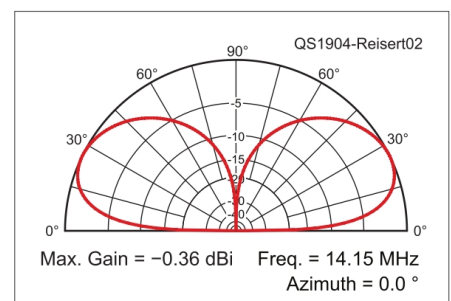
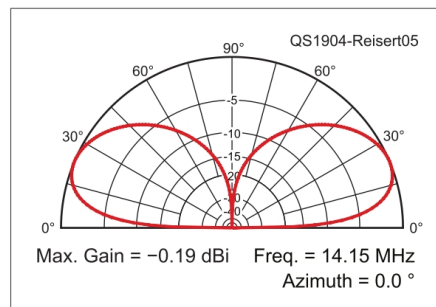

Figure 2 — Elevation pattern of a ground-mounted, quarter-wave antenna for 20 meters.
Figure 5 — Elevation pattern of a ground-mounted $\frac{3}{8}$ -wave antenna for 20 meters.
For maximum efficiency, they require a minimum of 16 quarter-wavelength radials.¹ Performance often suffers from ground clutter near the base. The typical *EZNEC* modeled radiation pattern with a takeoff angle of 26° is shown in Figure 2.² The current distribution over the monopole is shown in Figure 3. Note that the region of highest current — the place where maximum radiation takes place — is at the bottom of the antenna.
- It has a low takeoff angle of radiation at 23°, versus 26° for a ground-mounted, quarter-wave vertical (see Figure 5 and compare to Figure 2). This is a big advantage for working DX.
See Figures 2 and 3.
Another CW issue is that glitch at the beginning of the first dit on any new transmission, as can be seen in Figure 2. This glitch does not reoccur until you pause long enough for the receiver to recover and then transmit again. However, I could not hear anything funny with that first dit when listening on an adjacent receiver. So this is more of an “observable on an oscilloscope” problem and not so much of a real-world problem.
Figure 2 — CW keying waveform for the Xiegu X5105, showing the first two dits in full-break-in (QSK) mode using external keying and the default rise time setting. Equivalent keying speed is 40 WPM. The upper trace is the actual key closure; the lower trace is the RF envelope. (Note that the first key closure starts at the left edge of the figure.) Horizontal divisions are 10 ms. The transceiver was being operated at 5 W output on the 14 MHz band.